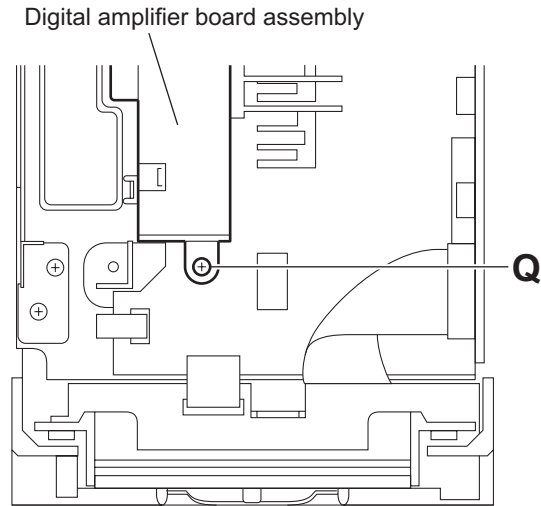

Fig.15
3.1.7 Removing the digital amplifier board assembly (See Figs.15 and 16)
- (1) From the top side of the main body, remove the screw **Q** attaching the digital amplifier board assembly. (See Fig.15.)